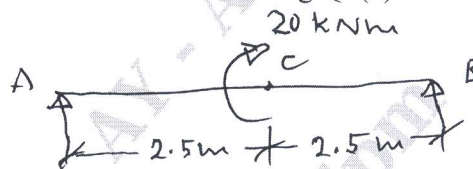

Fig.Q5(b)
b. Draw the SFD and BMD for the beam shown in Fig.Q5(b).